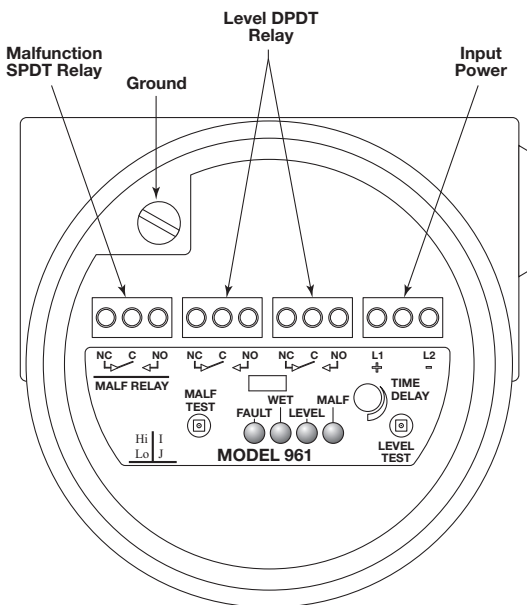

Figure 6
4. Refer to Figure 6. Connect power leads to proper terminals. Model 961 is available for AC power (102 to 265 VAC) or for DC power (12–28.4 VDC)
5. Connect desired relay wiring as shown in Figure 6.